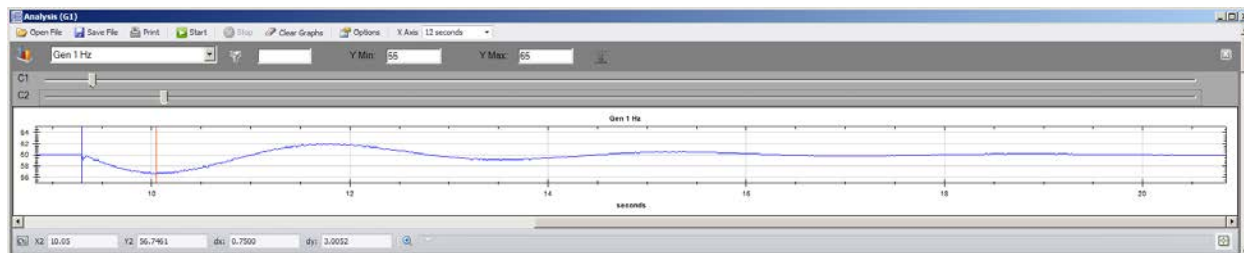

Figure 222. 750 ms time to local speed minimum – Initial T_{la} 0.375
2. Measure the time from load application to first local minimum of speed signal. Set the T_{la} Washout Filter Constant to roughly half of this value. The example plot in Figure 222 shows the local speed minimum being reached 750 ms after load application. Thus, the T_{la} Washout Filter Constant should be set to 0.375, half of the measured time.